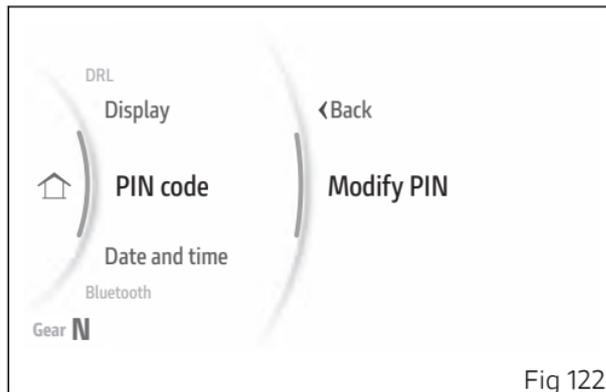

Fig 122
- From the Interactive Menu, use buttons (1) and (2) to select the item "Setting menu" and press ENTER (3).
- Select the "PIN Code" item and press ENTER (3).
- Select the "Modify PIN" item (Fig 122) and press ENTER (3).